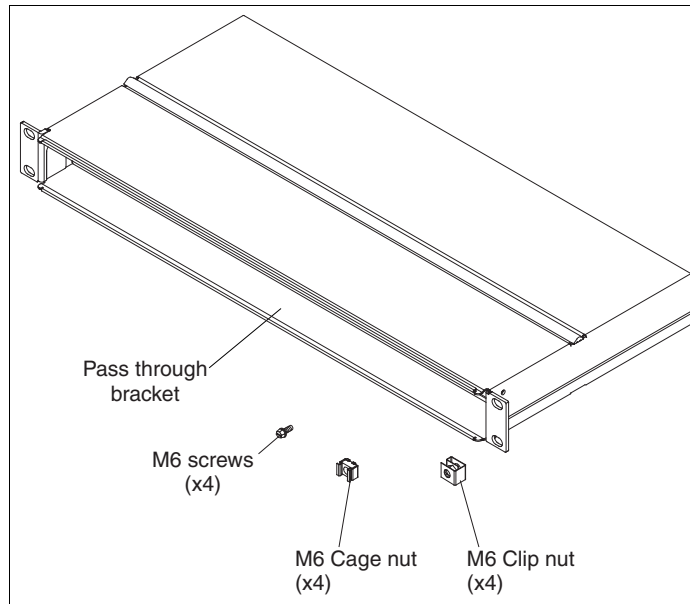

Figure 5-11 1U filler with brushes, allows cables through but blocks air flow
- ▶ Six 1U vertical mounting brackets in the rear post flanges, which can be used for power distribution units, switches, or other 1U devices, as shown in Figure 5-11.
- Front and rear cable access openings at the top and bottom of the rack, as indicated by the arrows that are shown in Figure 5-11 on page 79. The top cable access opening doors slide to restrict the size of the opening. For most effective use, do not tightly bundle cable that is passing through these openings. Instead, use the doors to flatten them in to a narrow row.
Front and rear cable access openings are available at the top and bottom of the rack, as indicated by arrows in Figure 5-11 on page 79. The top cable access opening doors slide to restrict the size of the opening. For most effective use, do not tightly bundle cable that is passing through these openings. Instead, use the doors to flatten them in to a narrow row.